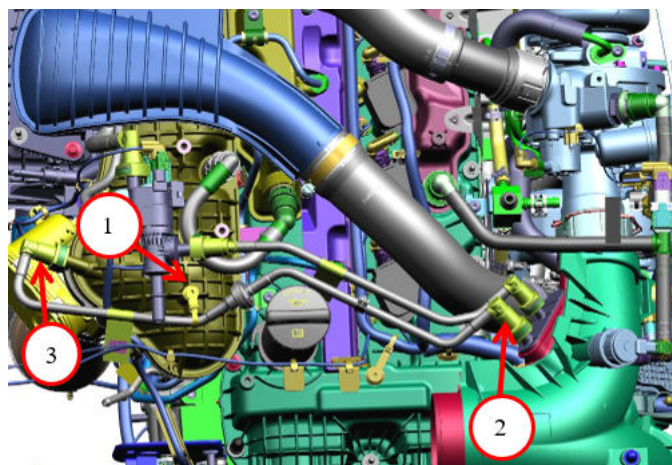

Fig. 5
12. Remove the tree clip Fig. 5.
13. Disconnect the canister purge tube quick connect at the Ejector-T Fig. 5.
14. Disconnect the canister purge tube quick connect at the intake manifold Fig. 5.
17. Connect the canister purge tube quick connect at the intake Fig. 5.
18. Connect the canister purge tube quick connect at the Ejector-T Fig. 5.
19. Push in the tree clip Fig. 5.